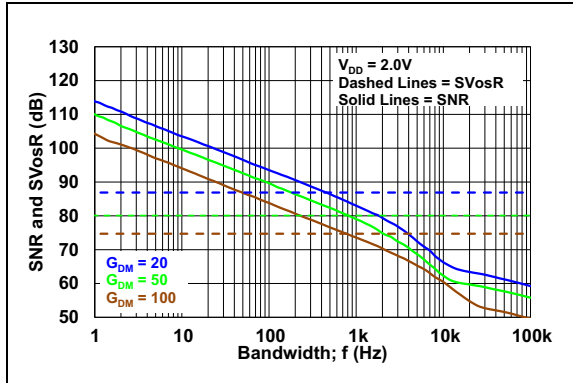
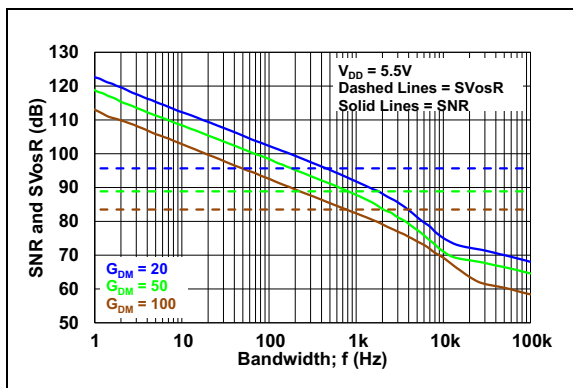

FIGURE 5-11: SNR vs. Bandwidth Estimates, $V_{DD} = 2.0V$.
FIGURE 5-12: SNR vs. Bandwidth Estimates, $V_{DD} = 5.5V$.
Figure 5-11 and Figure 5-12 show the device noise as a Signal-to-Noise ratio (SNR), assuming the signal is a full-scale sine wave (at V_{OUT}). The x-axis is the circuit's bandwidth (BW), to make it easy to evaluate a particular design.